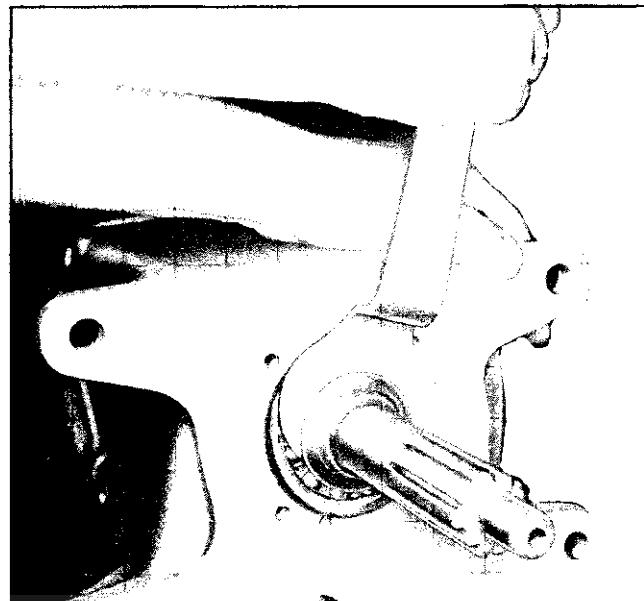

Fig. 7D-9 Removing Main Drive Gear Retaining Nut
4. Remove the main drive gear retaining nut (Fig. 7D-9), using tool J 933 after locking up transmission by shifting into two gears.